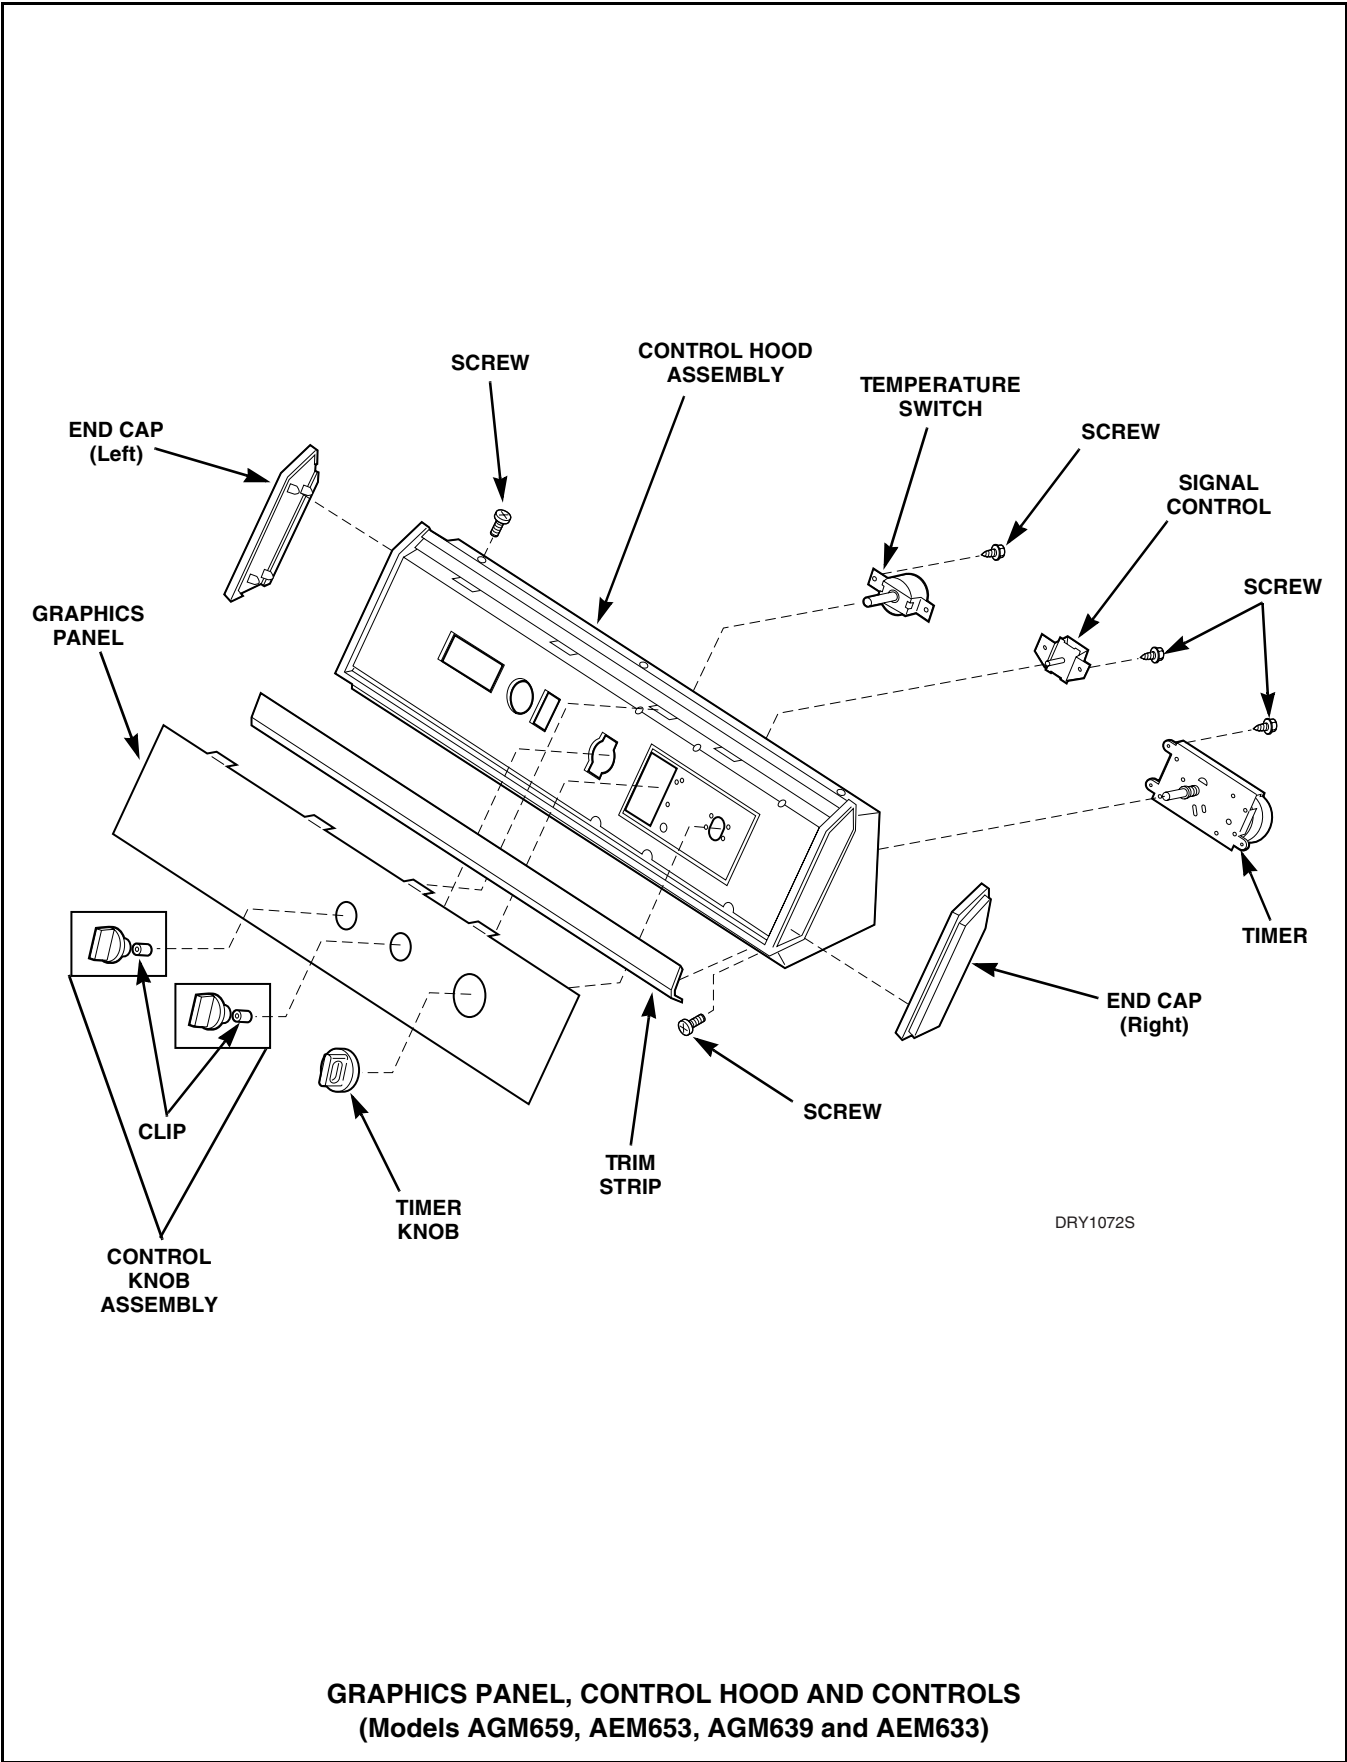

Figure 6
Refer to *Figure 6, 7, 8 or 9* for timer removal.
1. Remove six screws (three on top and three at lower front) holding the hood assembly to the control hood rear panel and to the cabinet top. Refer to *Figure 6, 7, 8 or 9*.
Refer to *Figure 6* or *8* for switch removal.
1. Remove six screws (three on top and three at lower front) holding the hood assembly to the control hood rear panel and to the cabinet top. Refer to *Figures 6* or *8*.
Refer to *Figures 6* or *7* for signal control removal.
1. Remove six screws (three on top and three at lower front) holding the hood assembly to the control hood rear panel and to the cabinet top. Refer to *Figures 6* or *7*.